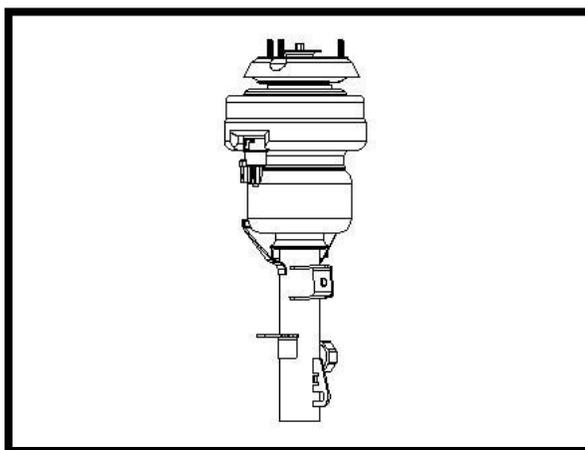

FIGURE 30-1
1. INSTALL (2) 141 - O-RINGS ONTO THE STRUT BODY WHERE PREVIOUSLY REMOVED O-RINGS WERE.
3. INSTALL (1) 114 - O-RING ATOP THE GOLD WASHER TO NEST INSIDE OF THE CHAMFER.
10. ASSEMBLED STRUT SHOULD APPEAR AS FIGURE 30-1.